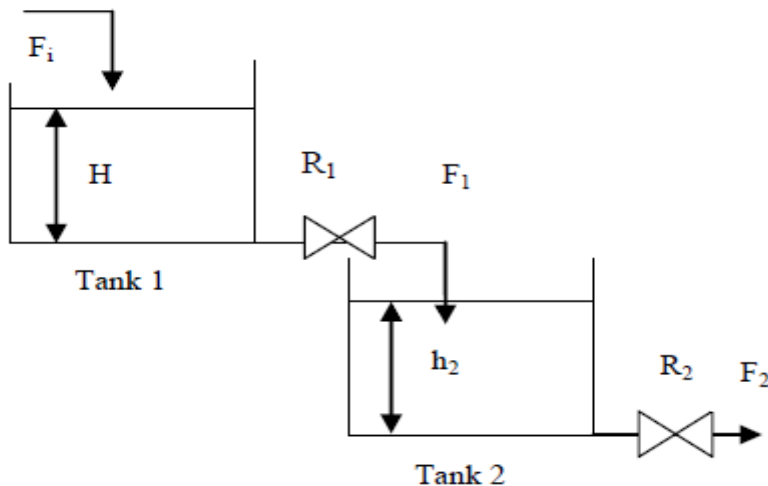
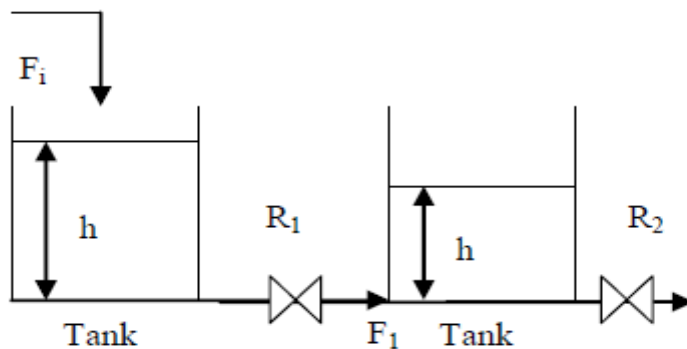

FIG 1. Schematic diagram of Non interacting Process
Figure 2. Schematic diagram of Interacting process
- As an example, we will consider the two liquid-level storage systems shown in Figs. 1 and Fig 2